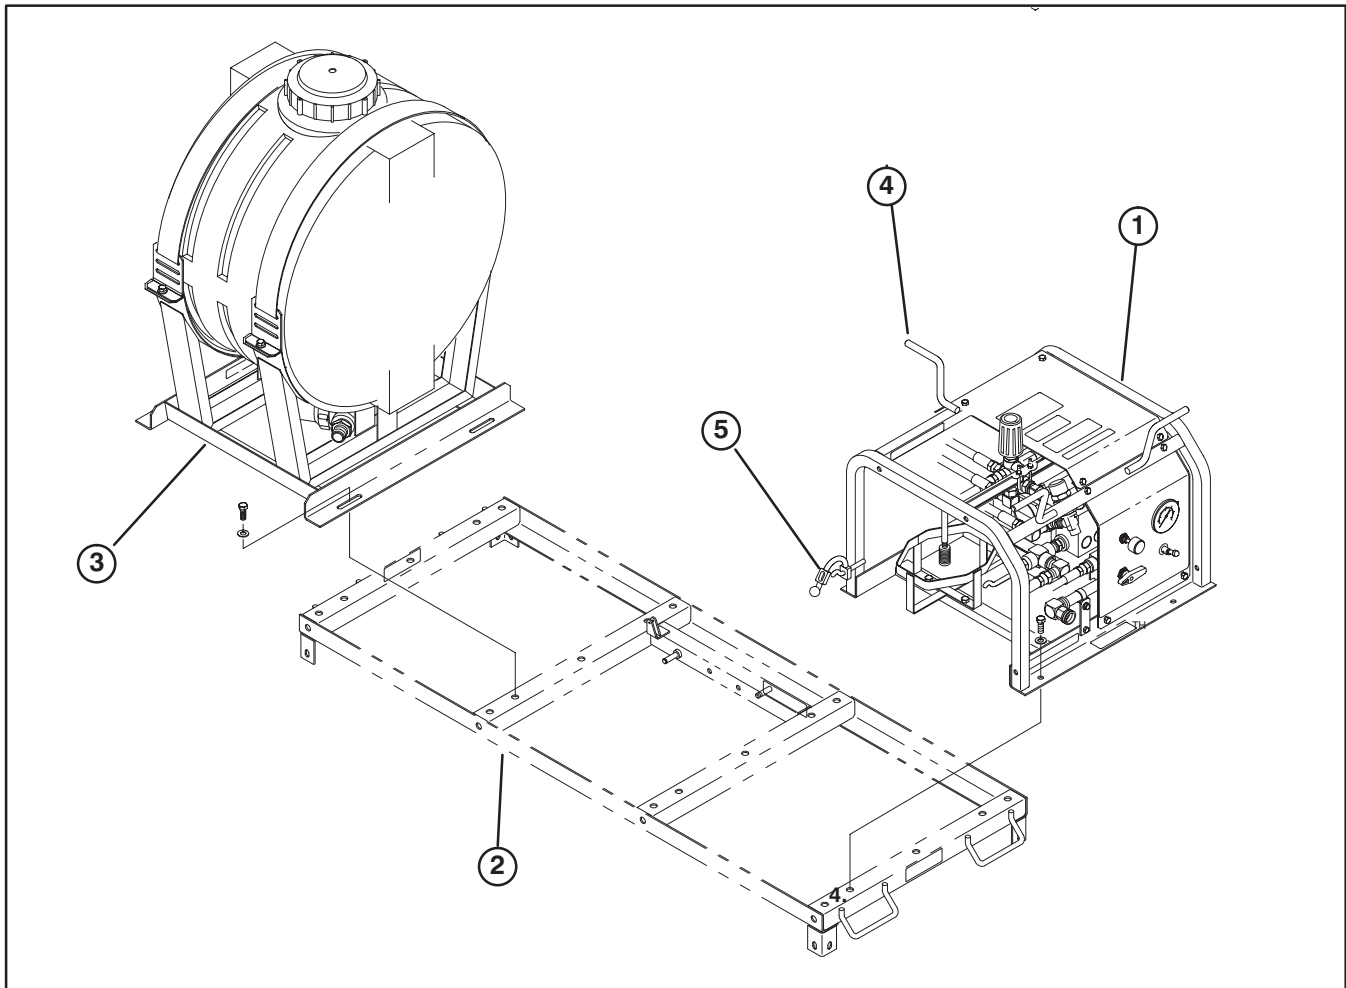

Figure 1
1. Position pressure washer pump assembly onto power platform aligning frame mounting holes with holes in platform (Fig. 1).
3. Install belt around pressure washer pulley and power platform jackshaft pulley (Fig. 1).
4. Secure pressure washer assembly frame to platform with (4) 3/8-16 x 1" lg. capscrews and flatwashers (Fig. 1).
5. Loosen (4) capscrews securing pump base to pressure washer frame. Tension belt by adjusting nut on tensioner. Belt should deflect 1/2" when 10 lb. of force is applied to belt midway between the jackshaft pulley and pump flywheel. Tighten capscrews securing pump to frame.
6. Position pressure washer tank assembly onto power platform aligning frame mounting holes with holes in platform (Fig. 1).
7. Secure pressure washer tank assembly frame to platform with (4) 3/8-16 x 1" lg. capscrews and flatwashers (Fig. 1).
11. When not using pressure washer, secure spray gun to pressure washer frame with (2) rubber hold downs and wind hose around the (3) storage hooks.